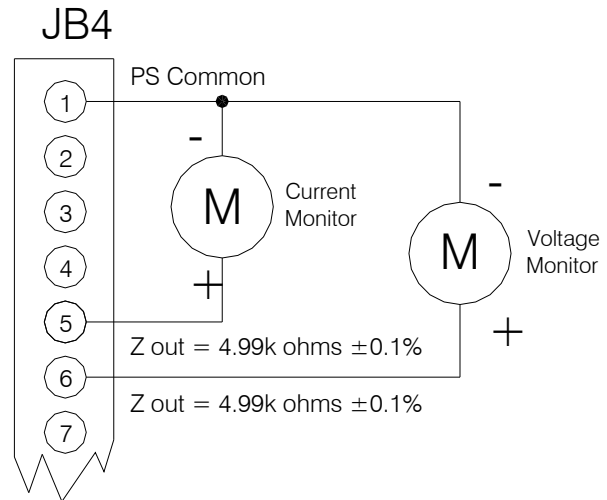

Figure 3.3 -- Remote Monitor Test Point Designations
- **REMOTE MONITOR:** Test points are made available at the terminal block on the rear of the chassis for monitoring the voltage and current output. (Output power monitor is included with the CPC and APT option). The test points are always positive regardless of the output polarity where 0V to 10V equals 0 to 100% of the output $\pm 0.5\%$. Test points have an output impedance of 5K ohms. See Figure 3.3 on page 13 for the test point designation.